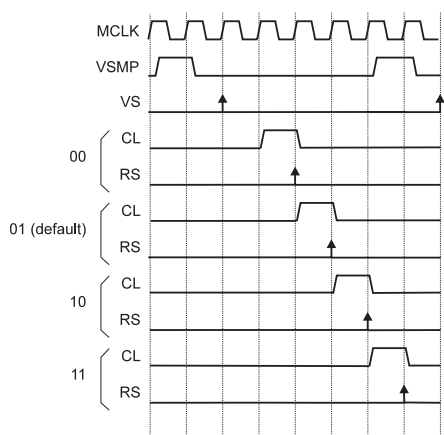
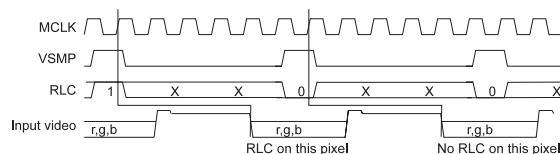

Figure 4: Reset Sample and Clamp Timing
Figure 6: RLC Timing
The position of the clamp relative to the video sample is programmable by CDSREF1-0 (see Table 7). By default, the reset sample occurs on the fourth MCLK rising edge after VSMP. The relative timing between the reset sample (RS) and video sample can be altered as shown in Figure 4.
A reset level clamp is activated if the RLC pin is high on an MCLK rising edge (Figure 6). By default this initiates an internal clamp pulse three MCLK pulses later (Figure 4: CL). The relationship between CL and RS is fixed. Therefore altering the RS position also alters the CL position (Figure 4). Table 7 shows the three possible voltages to which the reset level can be clamped.